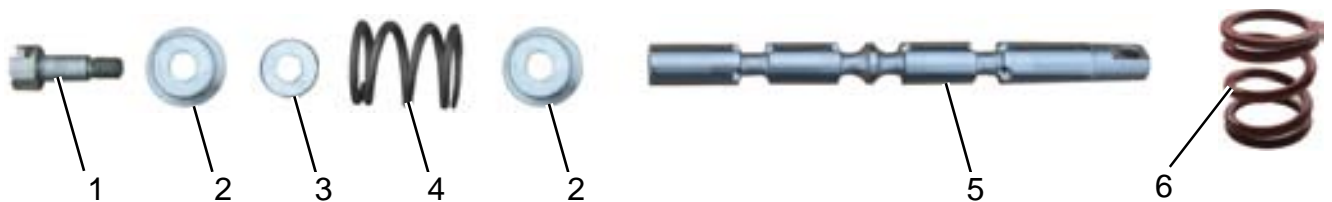
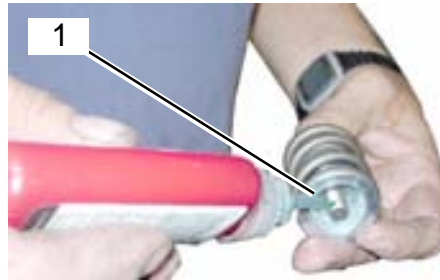

Figure 14
Figure 15
- Discard the spring (**Figure 14, 4**) removed during disassembly.
- Reassemble the centering spring assembly using the red spring (**Figure 14, 6**) supplied with kit.
- Reassemble the centering spring assembly in the order illustrated in (**Figure 14**).
- The spacer tube (**Figure 14, 3**) is inserted inside the red spring (**Figure 14, 6**) with spring retainers (**Figure 14, 2**) on each end of the spring.
- Slide the stripper bolt (**Figure 14, 1**) through the spring retainers for installation.
- Thoroughly clean the threads of the stripper bolt (**Figure 15, 1**) and inside spool (**Figure 14, 5**).
- Apply two to three (2-3) drops of Loctite® Grade 262 Red (**Figure 15, 1**) to threads of stripper bolt before installation.
Apply two to three (2-3) drops of Loctite® Grade 262 Red (Figure 15, 1) to threads of stripper bolt before installation. Do not over apply Loctite® as it will result in a weaker seal.